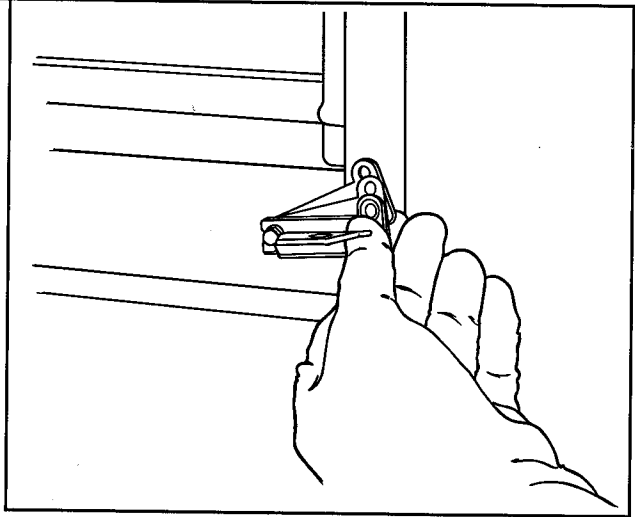

Figure 16
- a. Place all plastic bracket spacer(s) in between center hinge bracket and refrigerator. See Figure 16.